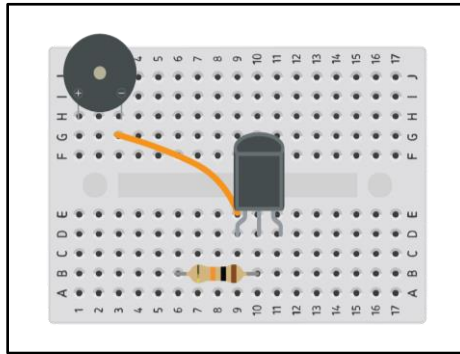

Figure 18. Placement of buzzer, transistor, jumper wire between transistor and buzzer, and resistor.
- On a mini breadboard, place the buzzer, the transistor, the 10K ohm resistor and the jumper wire as shown in **Fig. 18**.